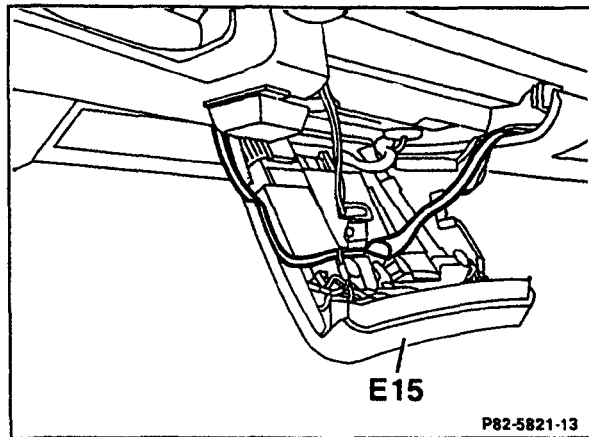

Figure 14
7. Route microphone harness behind lamp housing (Figure 14).